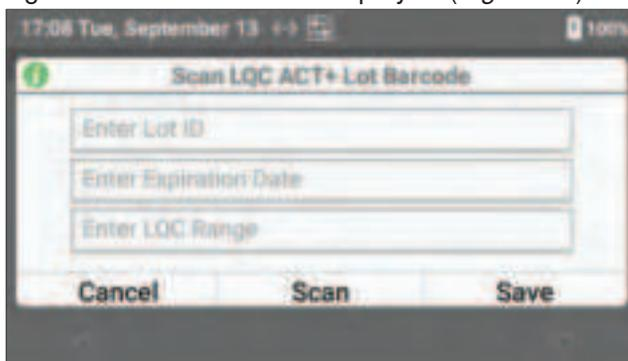

Figure 69: Enter LQC Lot Information
- 4 A dialog box for entering LQC lot information is displayed (Figure 69).